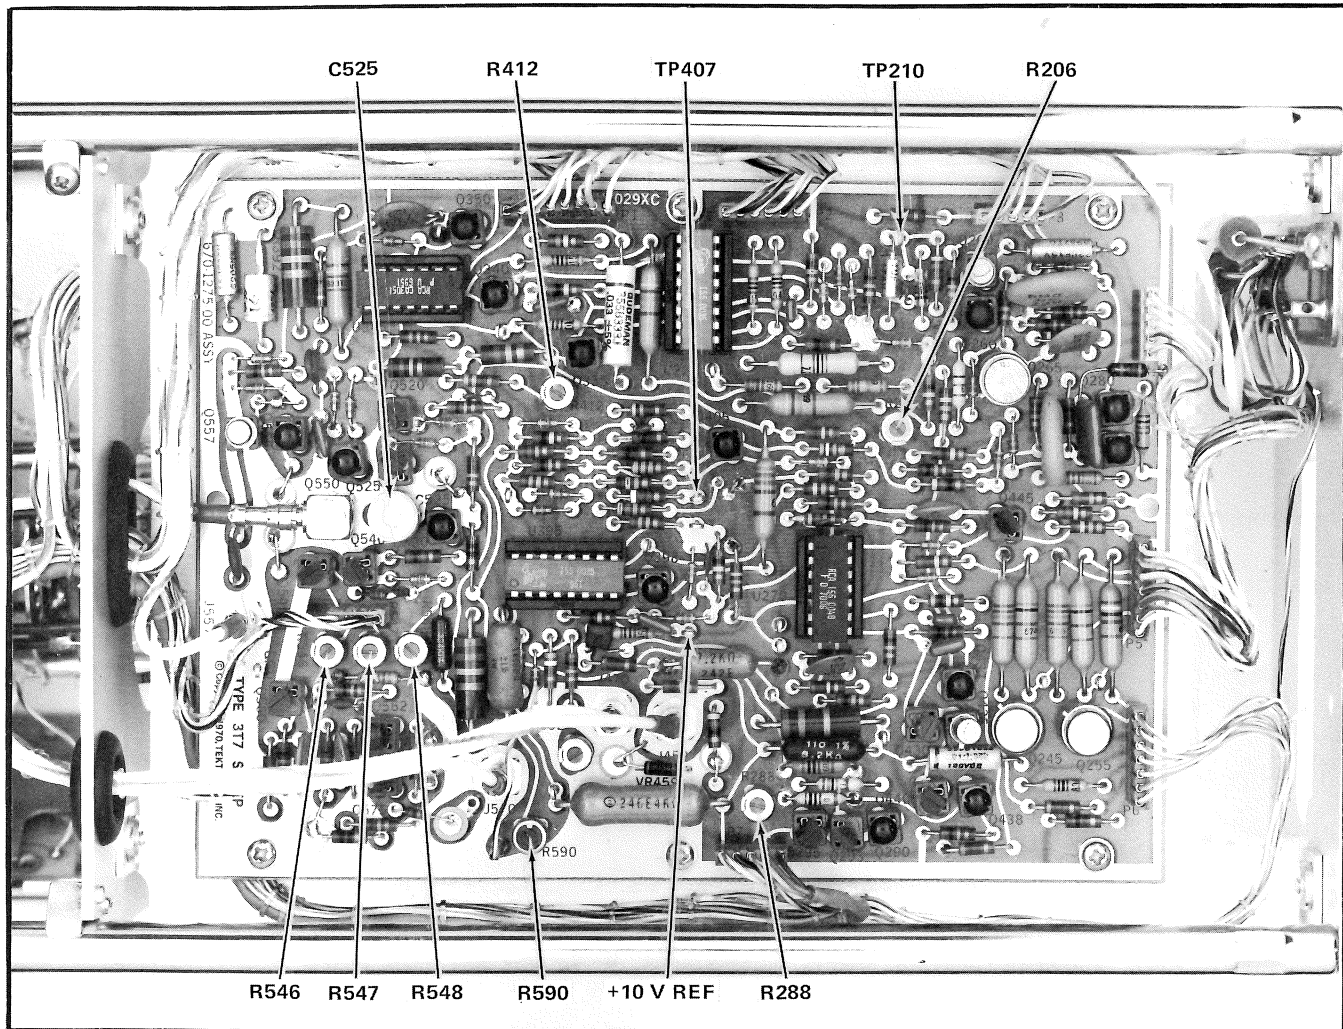
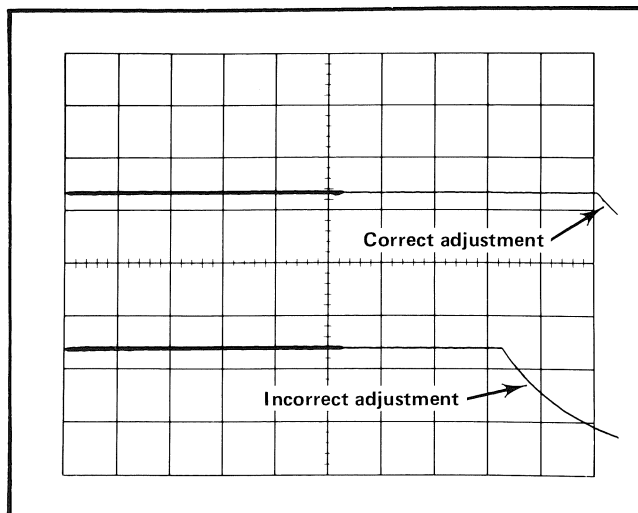
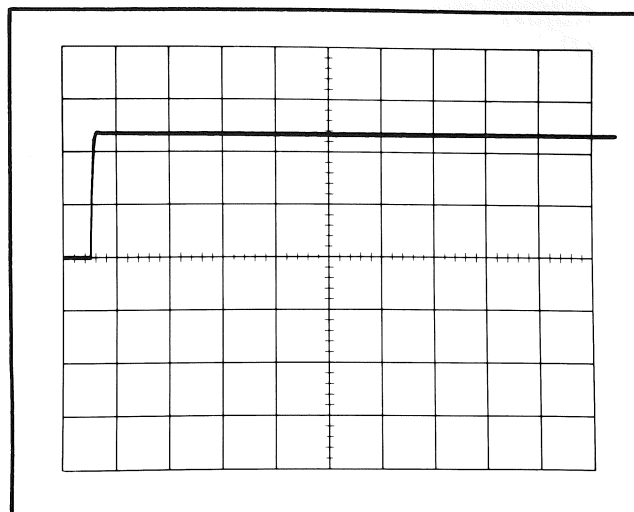

Fig. 6-1. 3T7 TDR Sweep calibration test points and controls locations.
Fig. 6-4. Waveform showing correct and incorrect R412 control adjustment (Step 3).
Fig. 6-8. Waveform showing correct adjustments of R546, R547 and R548 (Step 6) and R590 (Step 7).
c. Connect a P6012 (10X) Probe from the test oscilloscope A Input to the 3T7 TDR Sweep test point TP210. TP210 is located between Plug 2 (red) and Plug 3 (orange) at the upper right edge of the circuit board. See Fig. 6-1 for TP210 location.
e. Adjust R206 for a scan ramp of 1 s or more (1 div or more) as measured by the test oscilloscope. See Fig. 6-1 for R206 location and Fig. 6-2 for the waveform.
b. Adjust R412 while the LOCATE button is fully depressed. R412 is correctly adjusted when the ramp at the right end of the trace is only slightly apparent outside the right edge of the graticule (see Fig. 6-4 for this waveform). The trace intensity must be sufficient to show the right end of the trace when the LOCATE button is pushed. See Fig. 6-1 for R412 location.
a. Connect a P6012 (10X) Probe BNC connector end to the 2901 Time Mark Generator Trigger Out connector and the probe tip to test point TP407. See Fig. 6-1 for TP407, R532 and C525 locations.
f. Adjust R288 to position the next $1\ \mu\text{s}$ pulse at graticule line eight. See Fig. 6-1 for R288 location.
e. Adjust R546 to position the pulse step $0.5\ \text{div}$ from the graticule left edge. See Fig. 6-1 for R546, R547 and R548 locations and Fig. 6-8 for correct pulse position.
g. Adjust R547 to position the pulse step $0.5\ \text{div}$ from the graticule left edge (see Fig. 6-8).
e. Adjust R590 to position the bottom of the pulse at the vertical center of the TDR graticule (see Fig. 6-8). See Fig. 6-1 for R590 location.